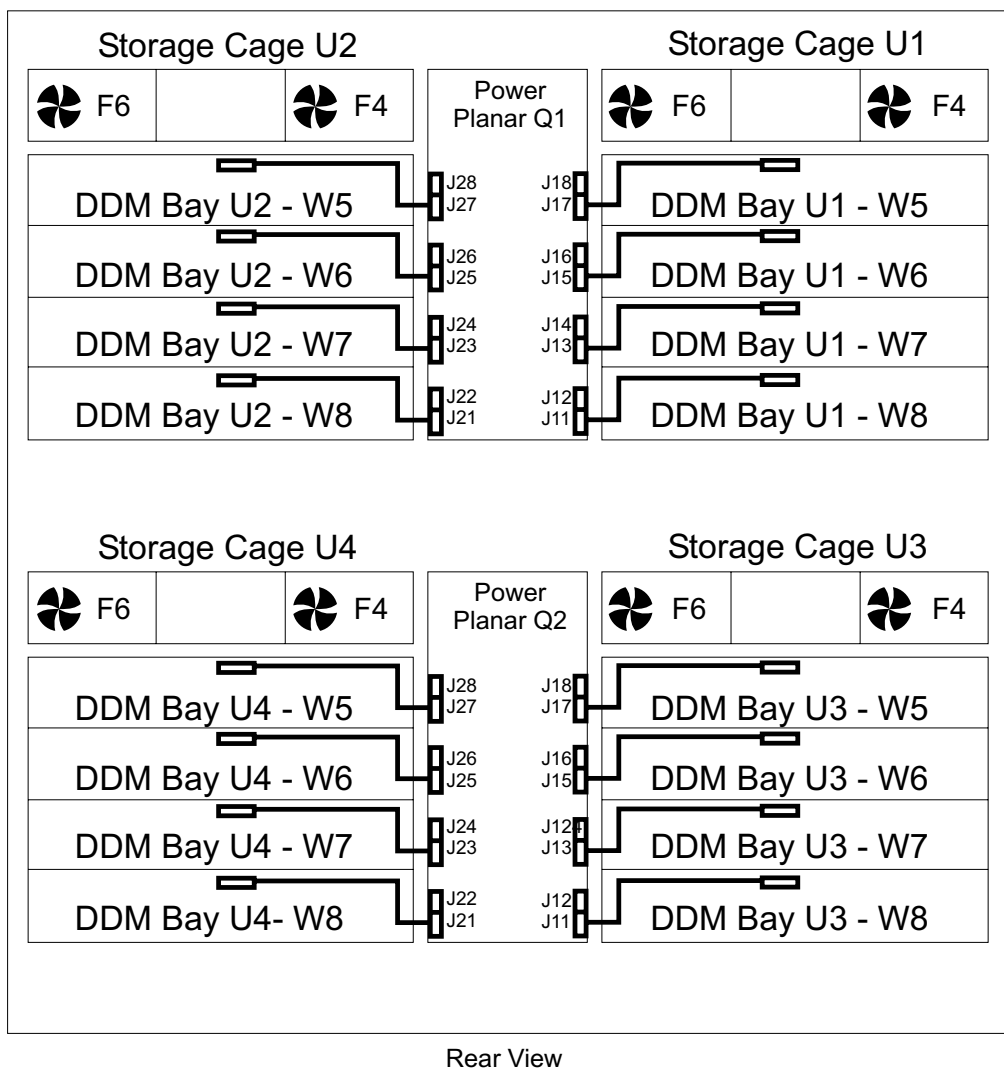

Figure 142. DDM Bay Rear Power Cable Locations (S008813s)
- The power planar to DDM bay planar cable is plugged to the wrong connector position on the storage cage power planar. See Figure 141 on page 277 and Figure 142 on page 278
- b. Verify that the power planar to DDM bay planar cable is plugged correctly. The most likely problem is the cables to a pair of front and rear DDM bays are swapped. See Figure 141 on page 277 and Figure 142 on page 278